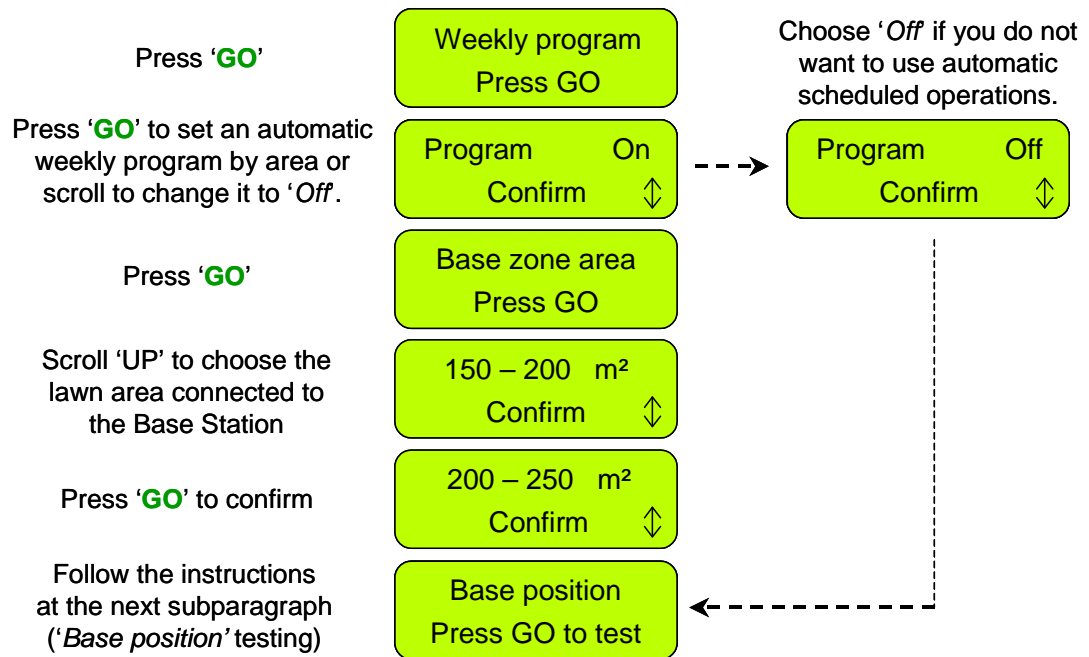

Figure 1.30
- The 'Weekly program' menu allows you to set an automatic weekly program by the size of the area connected to the Base Station (follow the steps shown in figure 1.30 below).